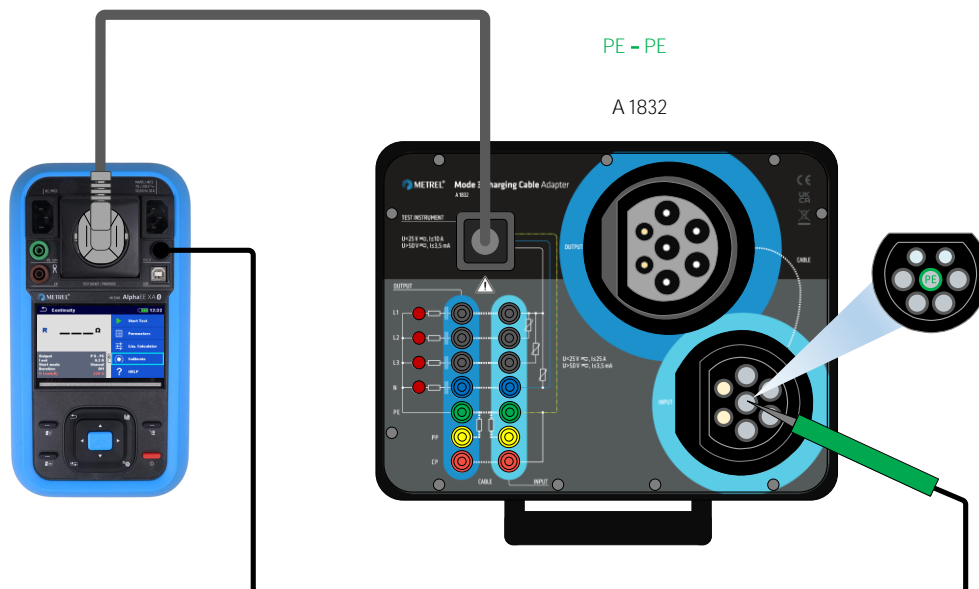

Figure 86_Test leads compensation
- Connect test leads according to the connection diagram Figure 86_Test leads compensation,